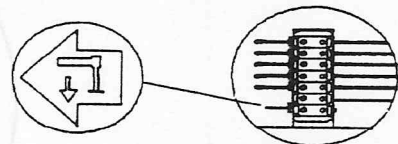

Fig.3
- 2) Operate the control lever (Fig. 3), the cylinder must touch the ground, lift the truck slightly without however fully releasing its suspensions.